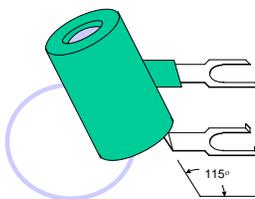

Figure 4-3
- d. Daylight controls (Figure 4-3) are photoresistors that change resistance with respect to light levels. As the light level decreases, the resistance of the daylight control increases. The photoresistor is used on the flasher to turn the light off in the daytime. A flasher **without** a daylight control will operate continuously, 24 hours a day. Daylight controls are available in three types from SFLC Baltimore: